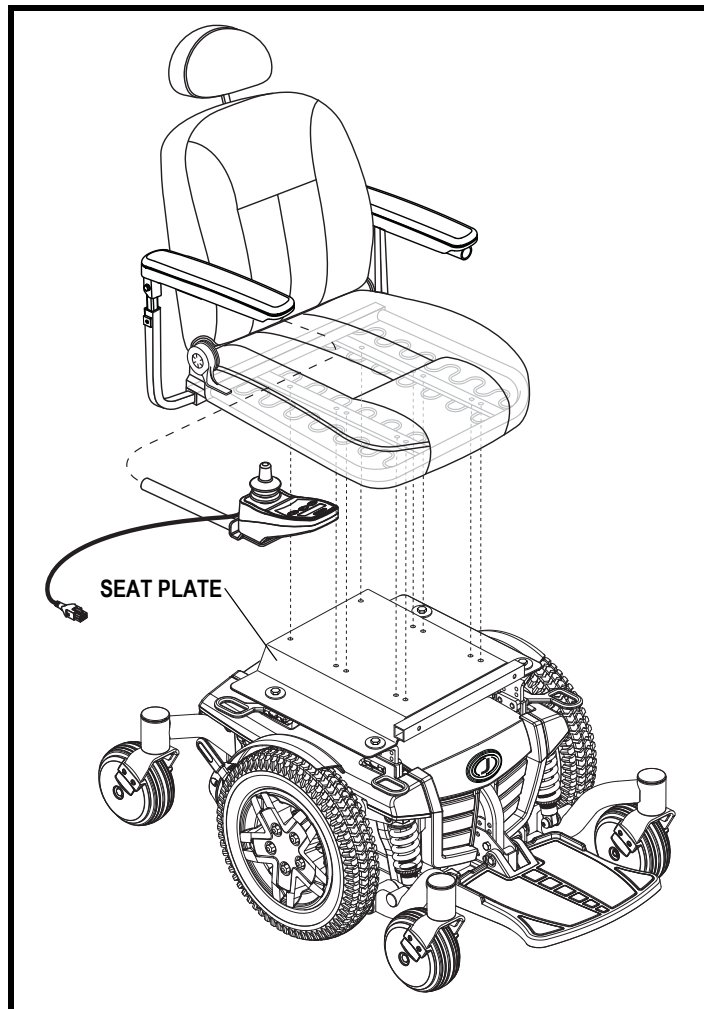

Figure 10. Seat Installation—UK Occupied Transit Securement System
For United Kingdom occupied transit power chairs, the seat is secured to the power base with hardware that attaches the seat plate to the four seat interface mounting brackets. The seat plate is located on the bottom of the seat. See figure 10.
1. Attach the seat plate to the power base and ensure all hardware is properly installed and securely tightened. See figure 10.